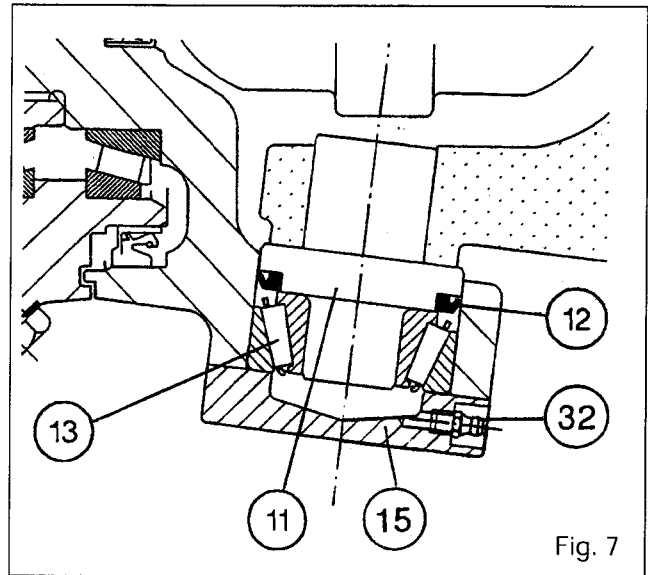

Fig. 7
60. If they were removed, fit the bush (9) and seal (8) fully home on the shoulder of the axle housing (52). Lubricate the seal (8). Refit the universal drive shaft. Insert a guide through the oil filling port to align the left-hand drive shaft with the differential.
61. If they were removed, fit the bush (17) and seal (16) fully home on the shoulder of the swivel housing (47).
62. Replace the seal (12). The lip on the seal must be positioned as shown in Fig. 7. Fit the cone (13) fully home on the swivel pin (11).
64. Refit the swivel housing (47). Place a seal on the swivel pin (7), coated with Anti-Seize grease. Position the swivel pin so that the swivel housing assembly is aligned with the axle housing (52). Fit the swivel pin.
65. Fit the cup (4), shims (3) and the cover (2). Fit the bolts (1) and tighten them evenly and alternately.
66. Fit the swivel pin (11), coated with Anti-Seize grease, checking that the lip on the seal (12) is correctly positioned. During this fitting operation, position the cup (14), the cover (15) and the grease nipple (32) (Fig. 7). Fit the bolts (1) and tighten them to a torque of 115 to 140 Nm in the same way as in procedure 65. **Check that the swivel pins (7) and (11) are properly in contact with the axle housing.**
67. After fitting the pins, remove the shims (3). Remove the cover (2) and tighten the bolts to a torque of 115 to 140 Nm.
95. Replace the seal **(12)**. Fit the lip of the seal in the direction shown in Fig. 7. Fit the cone **(13)** fully home on the swivel pin **(11)**.
96. Fit the swivel pin **(11)** coated with Anti-Seize grease, checking that the lip of seal **(12)** is correctly positioned during fitting. Position the cup **(14)** and cover **(15)**. Fit the bolts **(1)** and tighten them to a torque of 115 to 140 Nm in the same way as described in procedure 94. **Check that the swivel pin (7) and (11) are properly in contact with the axle housing (52).**